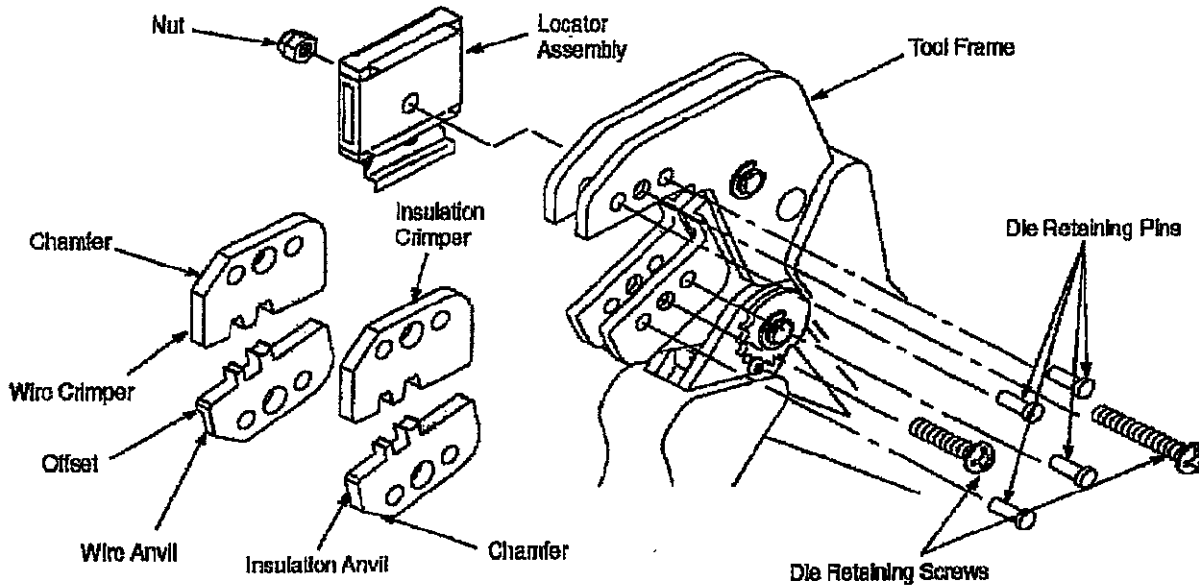

Figure 2
3. INSTALLATION AND REMOVAL OF DIE SET AND LOCATOR ASSEMBLY (Figure 2).